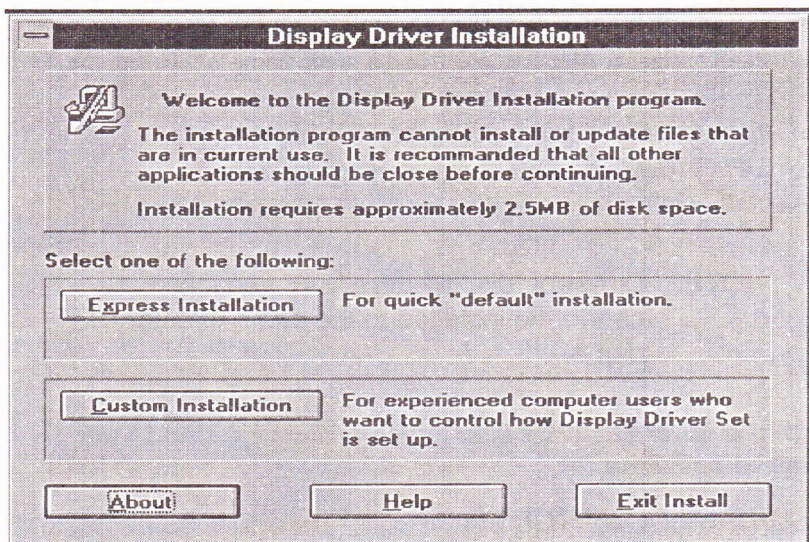

FIGURE 2.
- ☒ 6. A menu will appear, presenting a choice of Express or Custom Installation (see Figure 2).